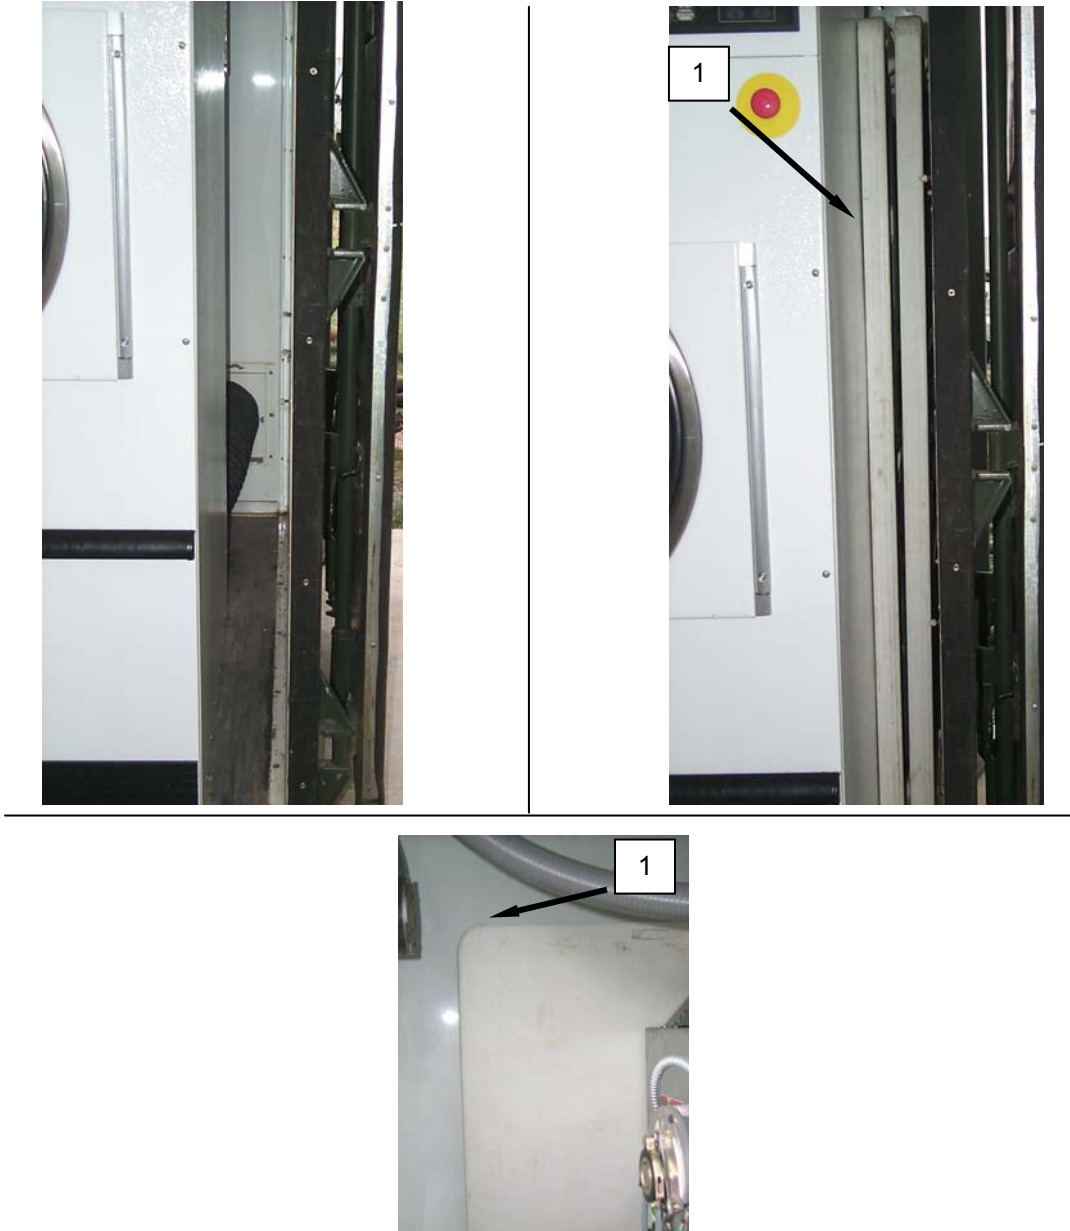

Figure 1. CBL Minimum Packout.
5. Slide the four folding tables (**Figure 1, Item 1**) and the laundry transfer top into the space between dryer No. 2 and the container wall. The folding tables will extend into the space behind the dryers.